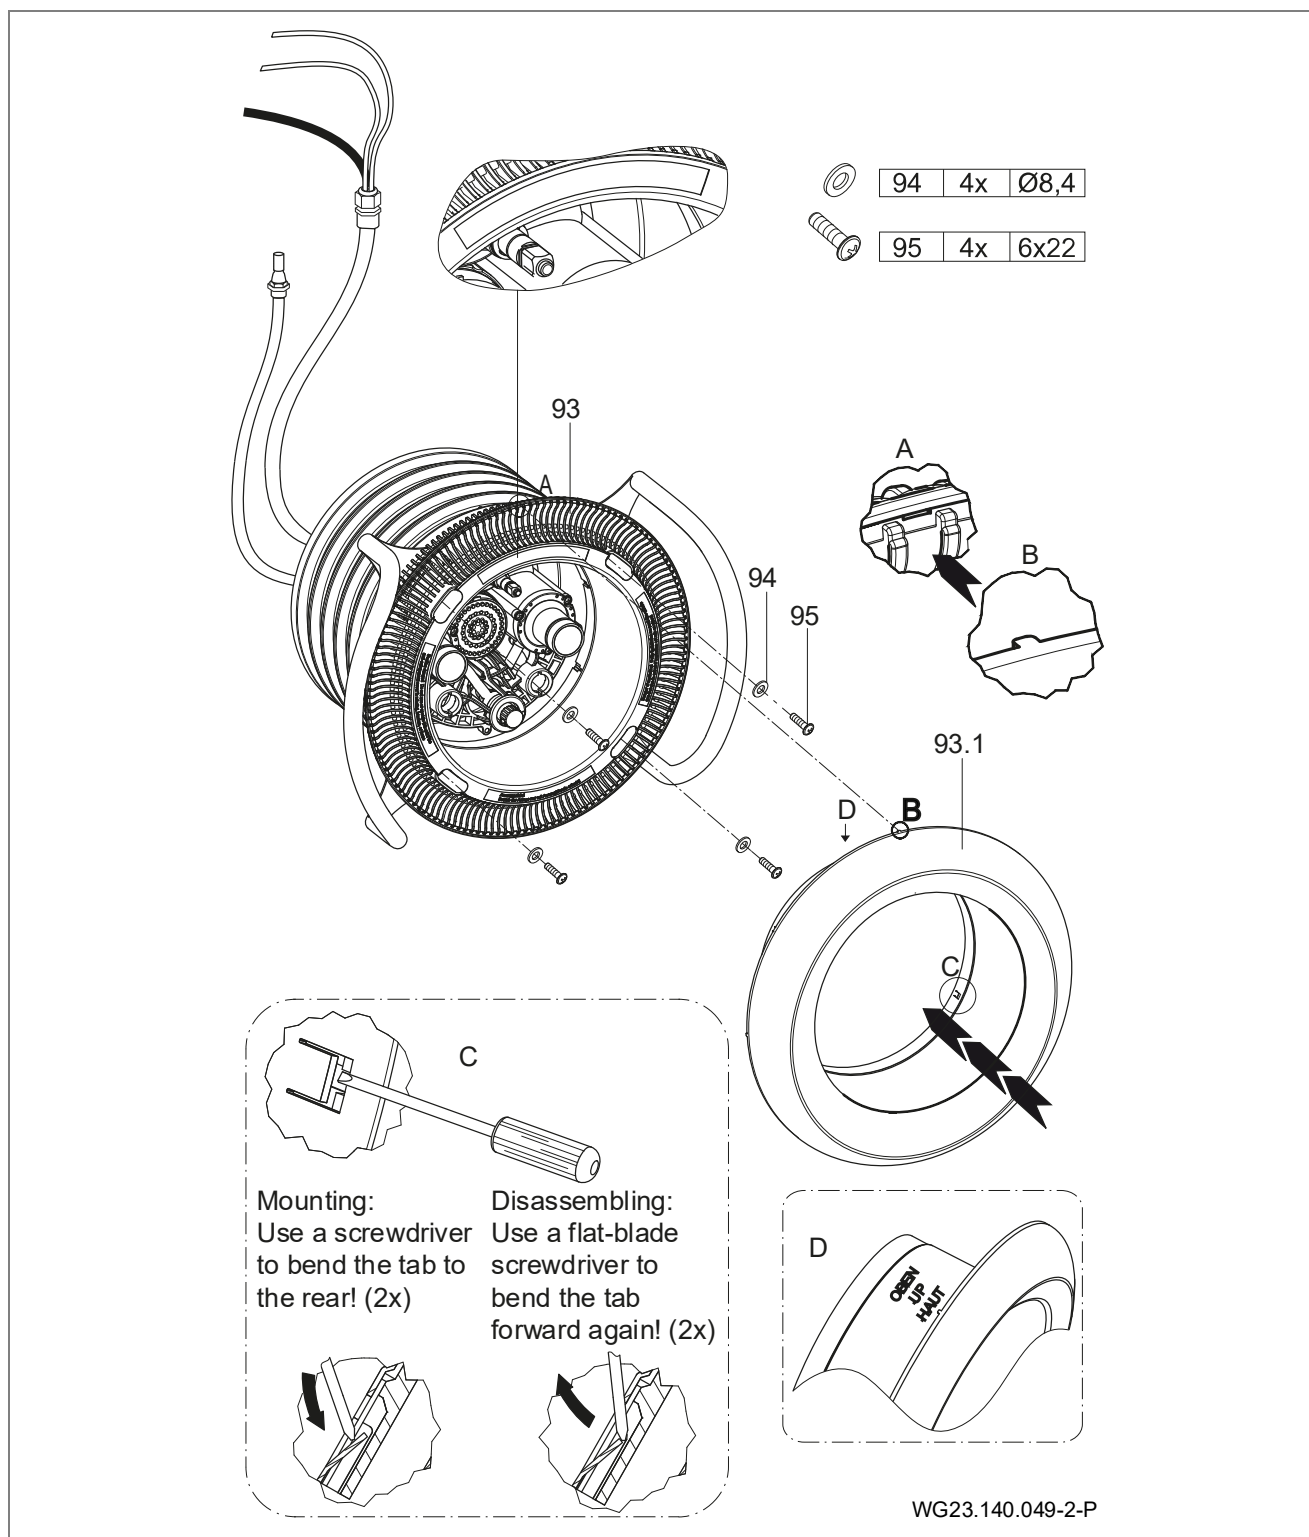

Fig. 19
7. Align the complete nozzle housing (102.1) to the main housing (1) and fasten the ten pre-assembled tapping screws (61). (Fig. 19)
9. Place the suction panel (93) on the support ring (28) and fasten with four plain washers (94) and four tapping screws (95). (Fig. 19)
10. Align the stainless steel cover with the protruding centring nubs to the existing recesses of the suction panel (93) and press them together by hand. Observe the "UP" marking on the stainless-steel cover. To fasten the cover use a screwdriver to bend the two offset tabs towards the back. (Fig. 19)